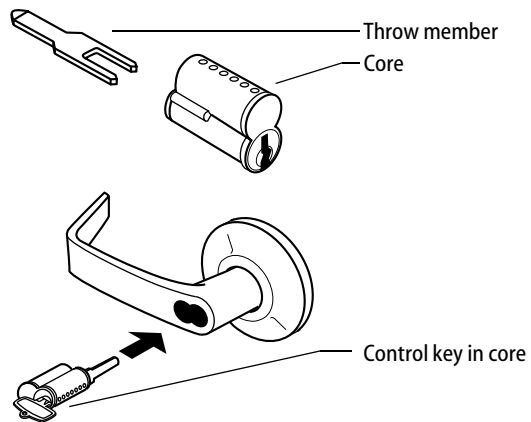

Figure 8 — Installing the core
- Insert the throw member into the core (see Figure 8 — top).
- Put the control key into the core and turn the key 15 degrees clockwise.
- Put the core and throw member into the lever with the control key (see Figure 8—bottom).
- Turn the key 15 degrees counterclockwise and remove the key.